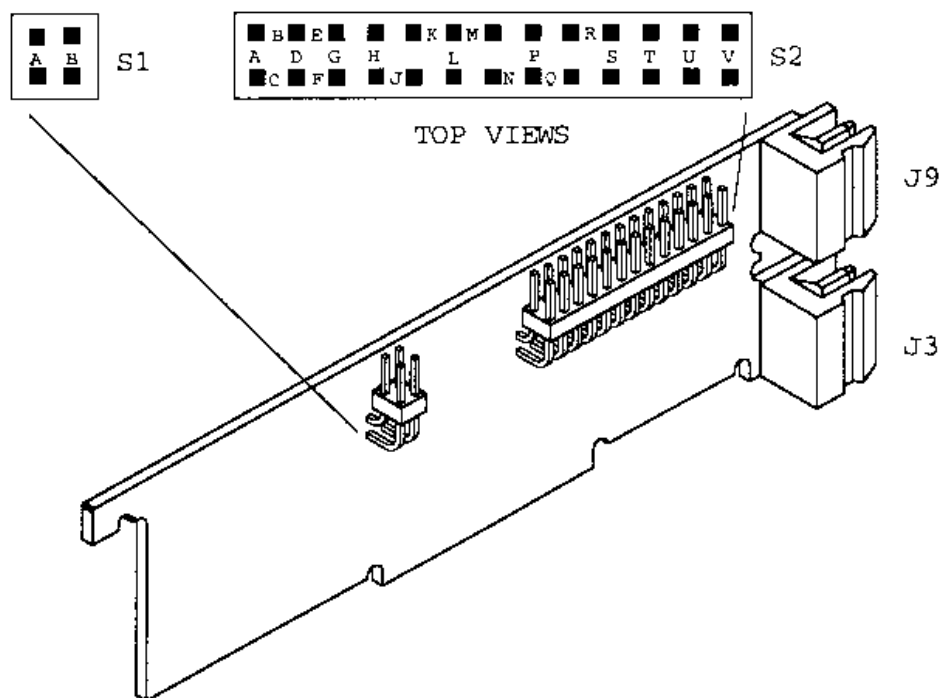
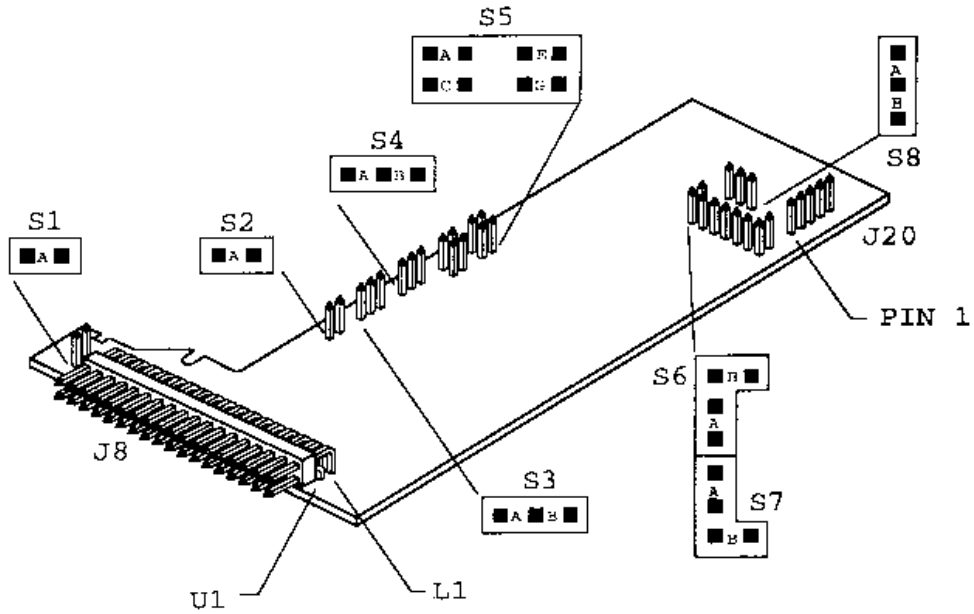

Figure 5-6. Signal Input Board
Figure 5-8. BCD Option Board
Figures 5-6 through 5-13 show the layout of the seven (7) printed circuit boards with respective jumper blocks, where applicable, used in the meter. Figures 5-8 through 5-12 show the optional boards.